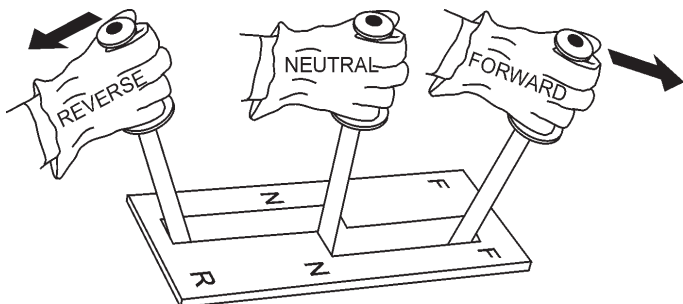

Figure 22. Shift Lever
1. To make the roller move in a **forward direction**, move the shift lever forward as shown in Figure 22.